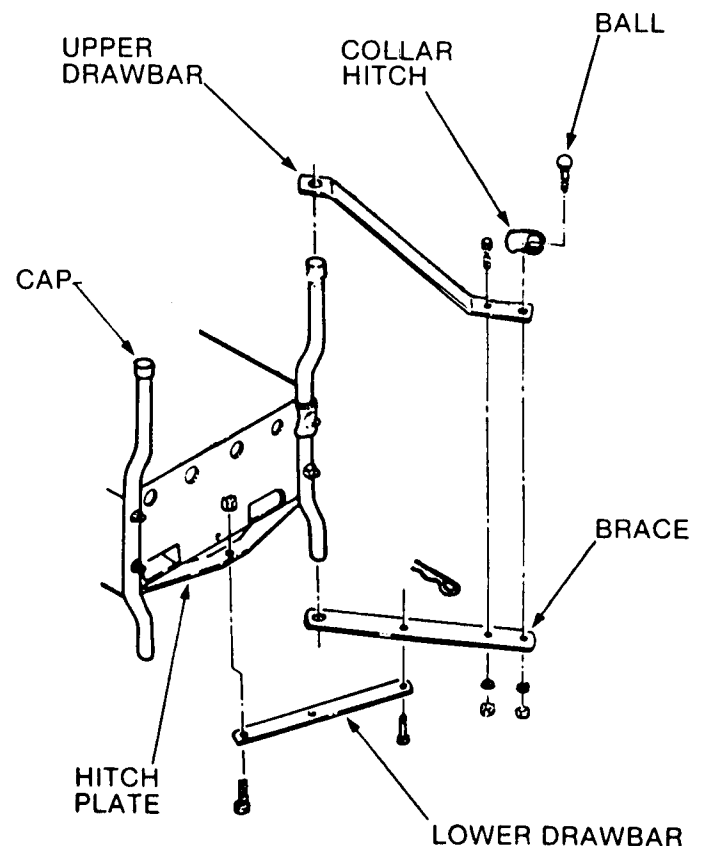

FIG. 2 - DRAWBAR HITCH INSTALLATION
**2. DRAWBAR-HITCH INSTALLATION:**\* Remove the cap from the top of the right rear bumper and install hitch parts as shown in figure 2. Place the upper drawbar over the top of the right bumper and the brace over lower end of this bumper. Secure these two items with a 3/8-24x1 hex head capscrew, 3/8 split lockwasher and 3/8-24 hex nut as shown. The collar hitch and ball can now be installed and secured as shown. Make sure that the shoulder on the hitch ball bottoms against the upper surface of the upper drawbar. Bolt the lower drawbar to the center hole in the hitch plate of the Rider. Secure these items with a 1/2-20x1 hex head capscrew and 1/2-20 hex locknut. Tighten these completely then back off on the nut about 1/2 turn to allow the lower drawbar to swing freely. Position the lower drawbar under the center brace, align holes and secure these with the hitch clevis pin and hair pin on top of brace.